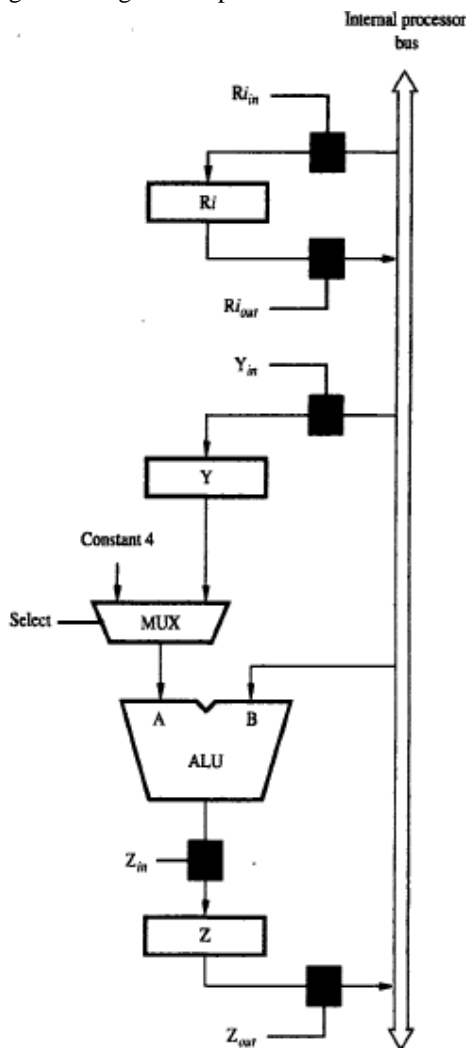

Figure 7.2 Input and output gating for the registers in Figure 7.1.
- 1) Enable the output of registers R1 by setting $R1_{out}$ to 1 (Figure 7.2). This places the contents of R1 on processor-bus.